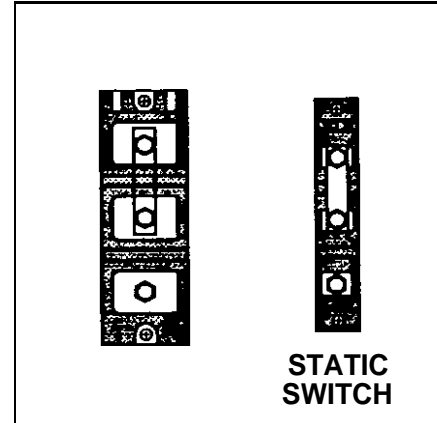

Figure 2
- 202-1 **Changing from 208 or 240 to 120 only.** Locate the static switch on the **heatsink** assembly. See Figure 2. There are two types of **heatsink** assemblies depending on the serial number. Determine which is correct for your unit and replace the static switch with the higher ampacity switch provided.